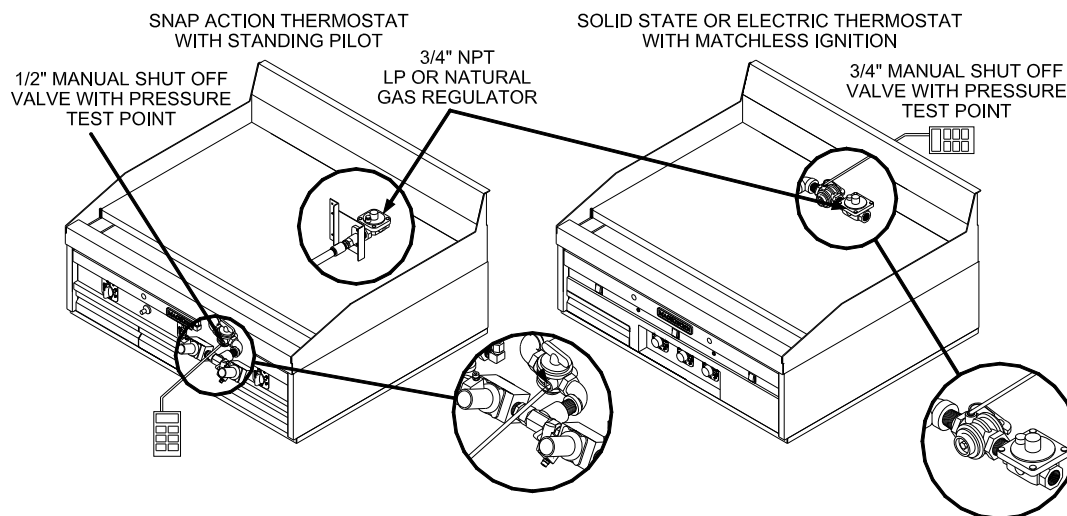

Figure 6
1. The gas input regulator for your new appliance have been installed at the factory, See Figure 6 for the location of the regulator manual shut off valve equipped on your appliance. Using a regulator other than the one supplied with the unit will void the warranty.
2. The manifold pressure must be maintained at the pressure marked on the Data plate. For appliances equipped with Solid State or Electric Thermostat controls the pressure reading is taken at the pressure test point supplied on the $\frac{3}{4}$ " (19 mm) manual shut off valve, see Figure 6. For all other griddles, a pressure test point is supplied on the $\frac{1}{2}$ " (13 mm) manual shut off valve located behind the door, also see Figure 6.
Orifices are sized to provide proper gas flow to the rated input power for each model. Regulator pressure must be measured and adjusted before the unit goes into service, following installation and when operational performance is in question. The manifold pressure readings are taken at the pressure test points on the supplied manual shut off valves, see Figure 6.
2. Open front door of the griddle, turn the manual gas shut off valve to the "ON" position, see Figure 6.
2. Turn the Manual gas shut off valve to the "ON" position, this valve is located at the rear of the unit, see Figure 6.
3. Turn the **RED "I/O"** switch to the "I" (ON) position for all desired Thermostats to be operated, See detail Method B at right. When the Pilot ready (Amber) light illuminates, the pilot(s) are ready to operate the main burners.